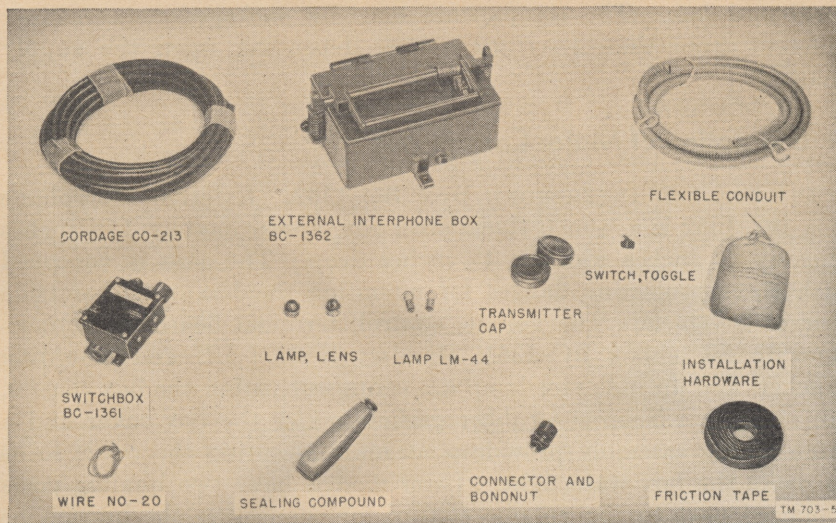

Figure 5. Components of Interphone Extension Kit RC-298.
5. Table of Components (fig. 5)
d. Compare the packing slip with the unpacked equipment to make certain that all necessary components are present (fig. 5 and par. 5).